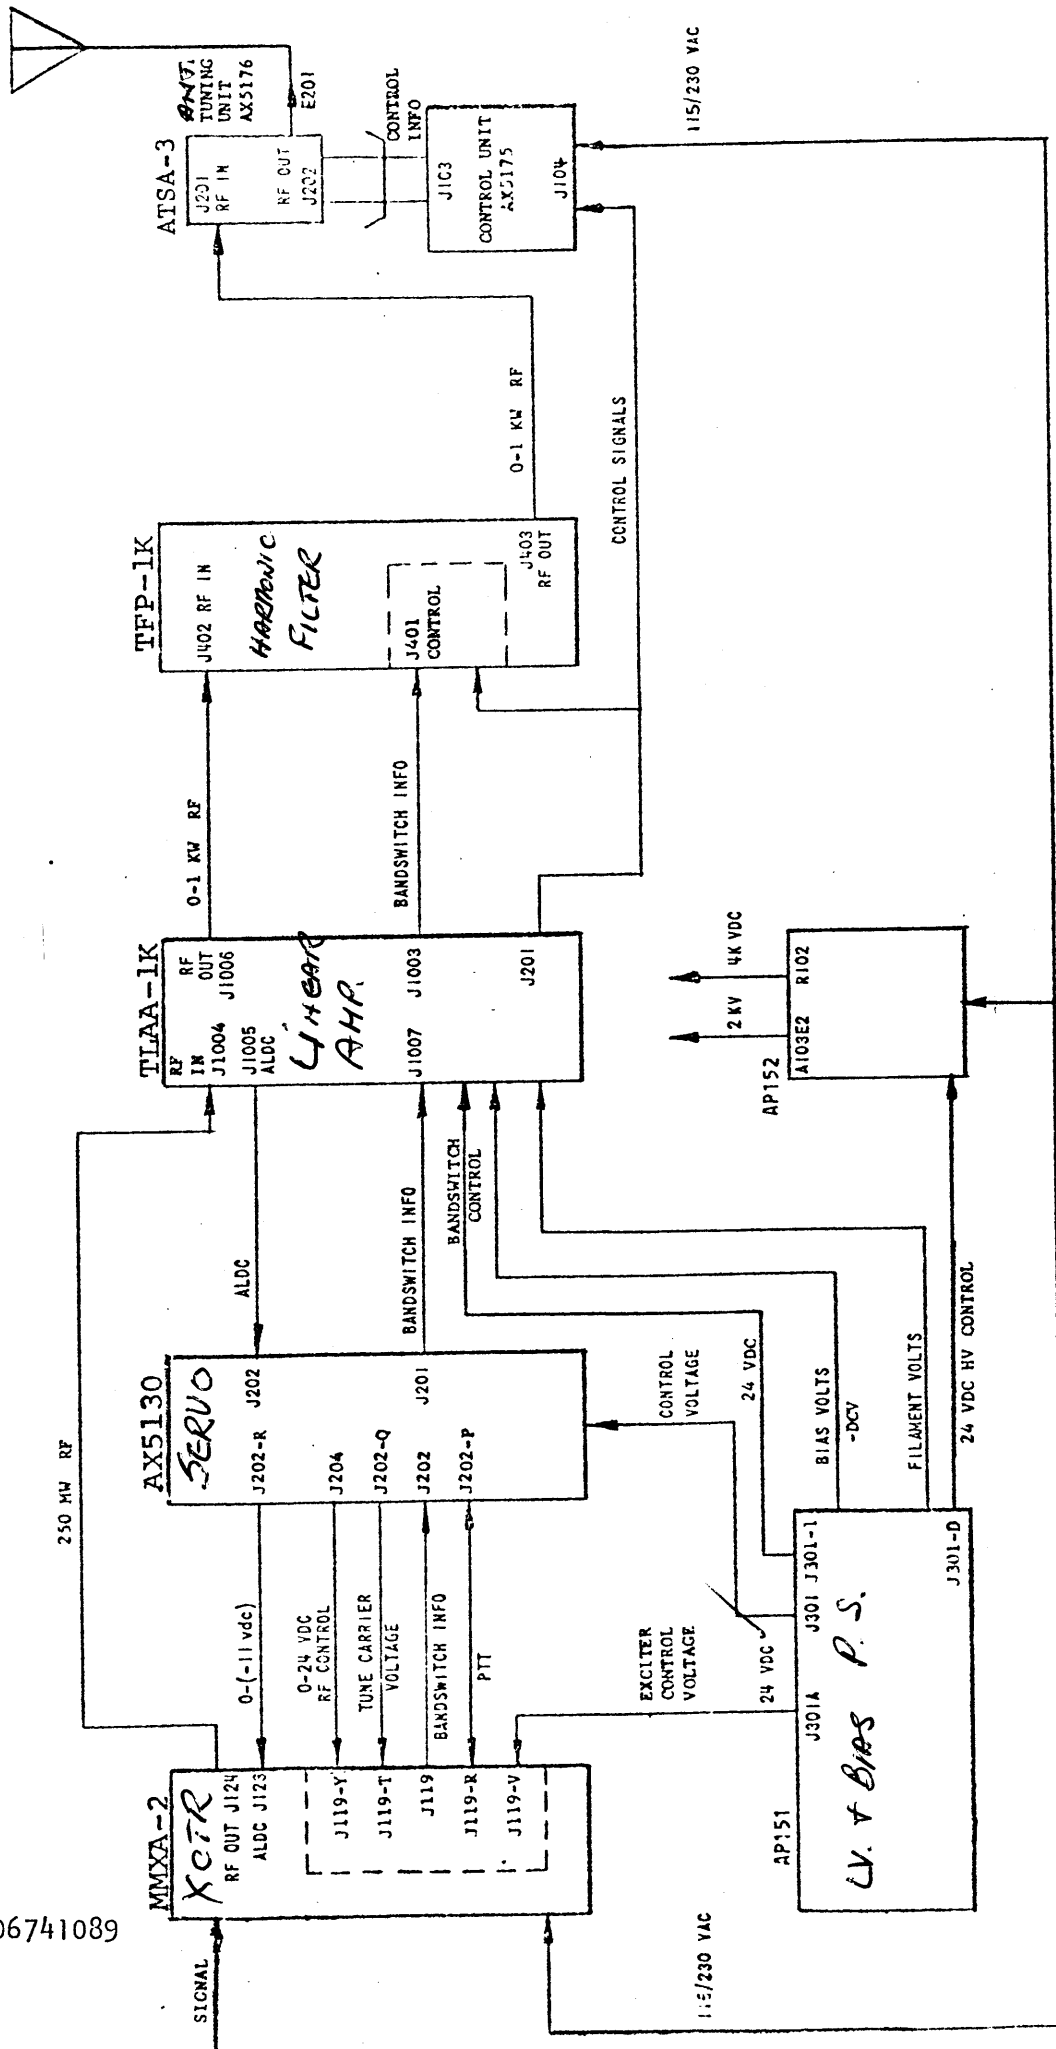

Figure 4-1. Functional Block Diagram HFTA-1KJ2/1P Transmitter
The system block diagram figure 4-1 illustrates the basic interconnect of the system components. The basic carrier frequency is derived in the multi-mode exciter MMX(A)-2. This unit provides a maximum of 250 milliwatts rf output which is utilized as a source excitation for the linear power amplifier portion of the transmitter. The linear amplifier portion of the transmitter functions to amplify the exciter's output up to one kilowatt PEP or average power.
- (1) Overall block diagram (Section 4, figure 4-1).